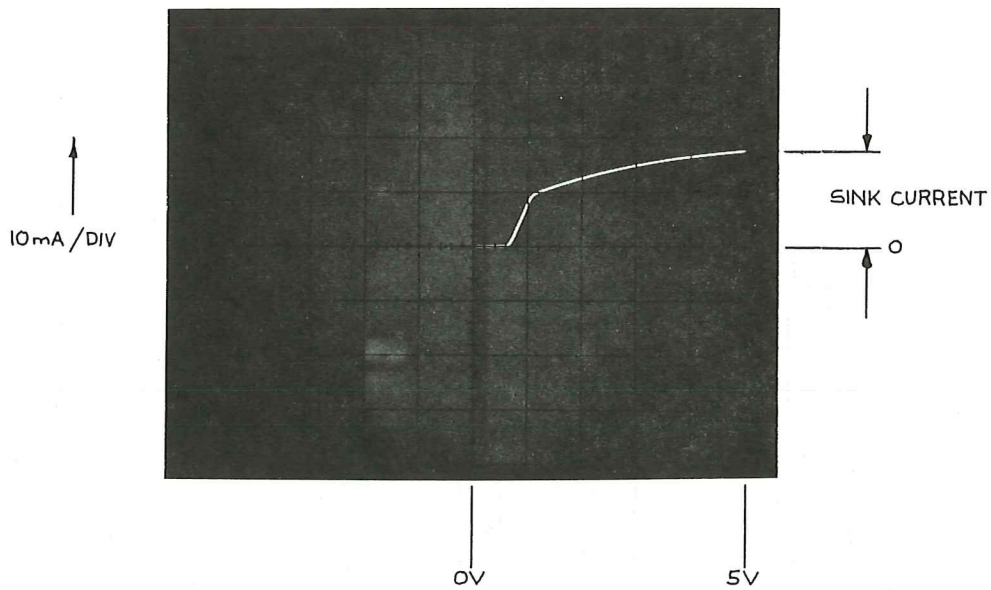

Figure 15. Typical display of minimum sink current.
- CHECK-vertical current output (minimum, 10 mA at 5 volts); see FIG. 15.